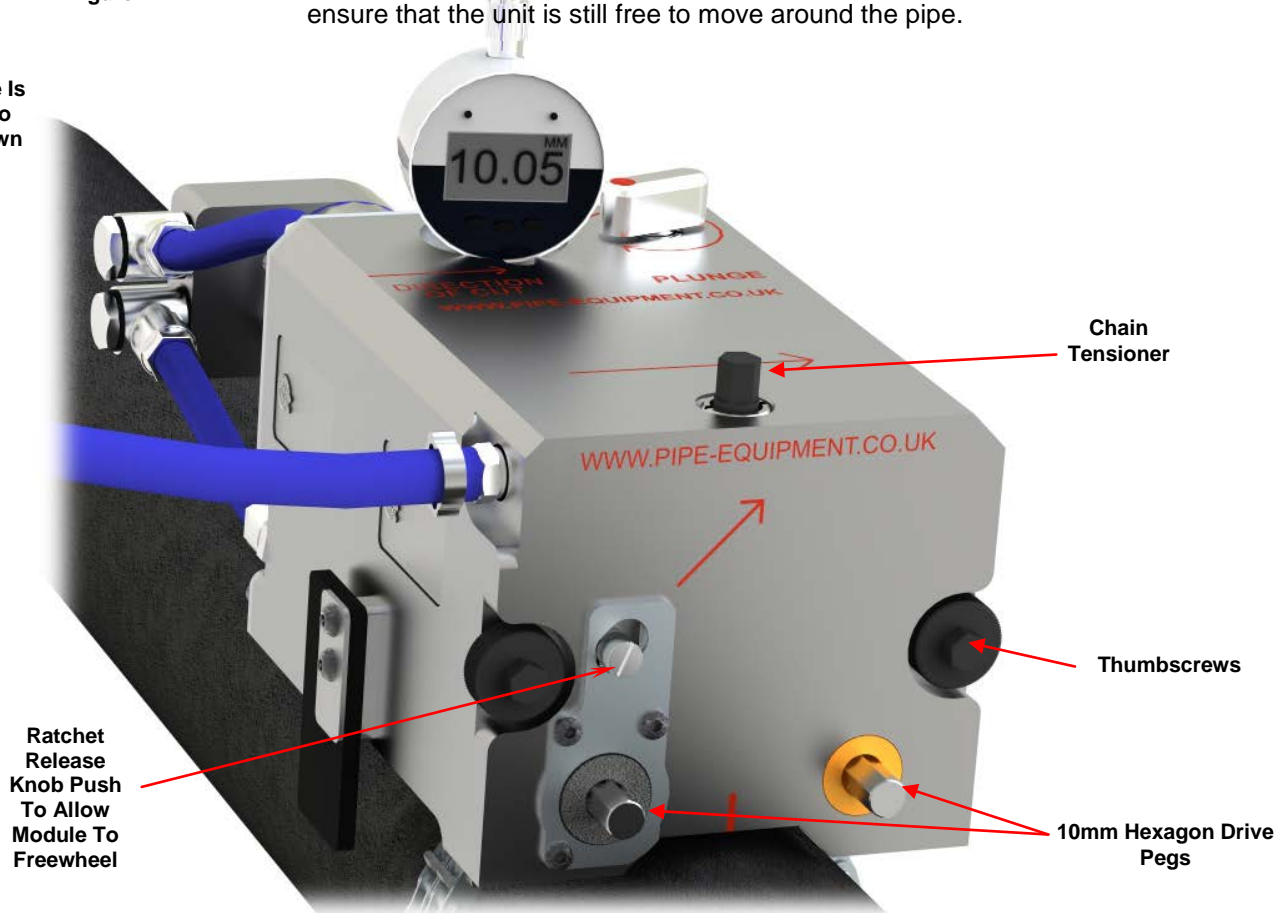

Figure 2
The unit will only advance in the direction of cut due to the safety ratchet, this can be released by pushing the ratchet release in on the rear of the Module See figure 2.
5. Turn the chain tensioner on top of the unit see Figure 2, a moderate torque is all that is required to tension the chain 3.6lb-ft – 6lb-ft (5-8N/m). When tensioning ensure that the unit is still free to move around the pipe.
10. Secure the Cutter Module onto the Circumferential Module (ensuring the blade is fully retracted). It will locate on 3 dowels and the air connection spigot. The Modules are secured together by tightening the thumbscrews on the rear of the Circumferential Module see Figure 2. These should be tightened to 6.7lb-ft (10N/m) by the 1/4" Drive Manual Ratchet fitted with the 10mm Socket.
18. Attach the ¼" Manual Drive Ratchet to one of the 10mm Hexagon Drive Pegs on the rear of the Circumferential Module (see figure 2).
22. To make an additional pass, stop the air motor and lift the ratchet release on the rear of the Circumferential Module (see figure 2). Using the Manual Ratchet to drive the tool back to the start of the cut. Take care not to drive the blade into the uncut pipe this will dull the edge of the blade and cause the blade to jam on startup.